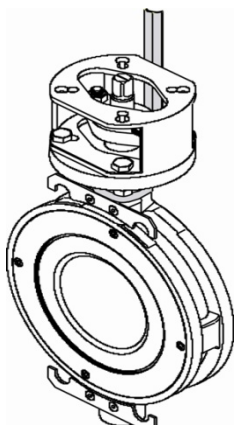

Figure 1
- Stop of retention straps as per Figures 1 to 3,